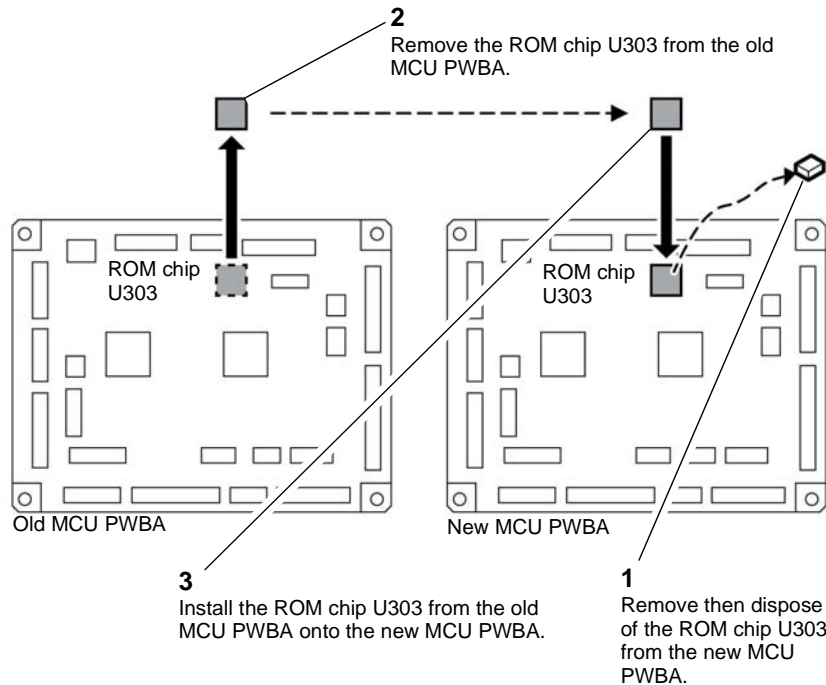

Figure 3 Swap the U303 ROM chip
2. Before installing a new MCU PWBA, swap the ROM chip U303 from the old MCU PWBA for the ROM chip U303 on the new MCU PWBA, Figure 3.